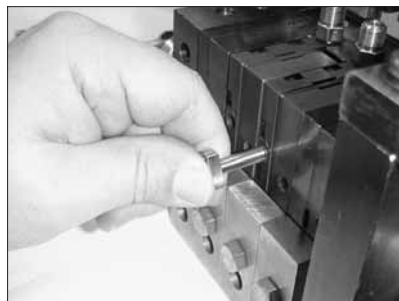

Figure 7-46 Removing pump pressure transducer plugs
3. See Figure 7-46. Using a 2.5-mm hex wrench, remove the pressure transducer plugs from the pumps.